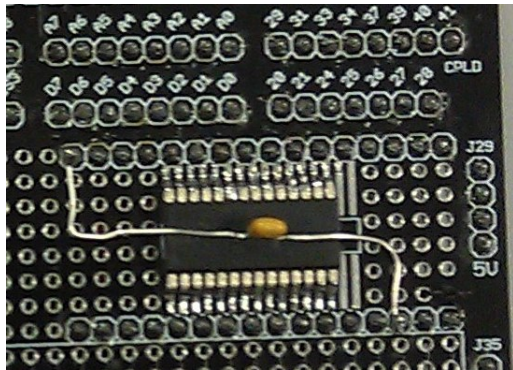

Figure 4: SRAM placement on uTinkerer.
3. If you have time, solder the 32k x 8 SRAM in place as shown in Figure 4.